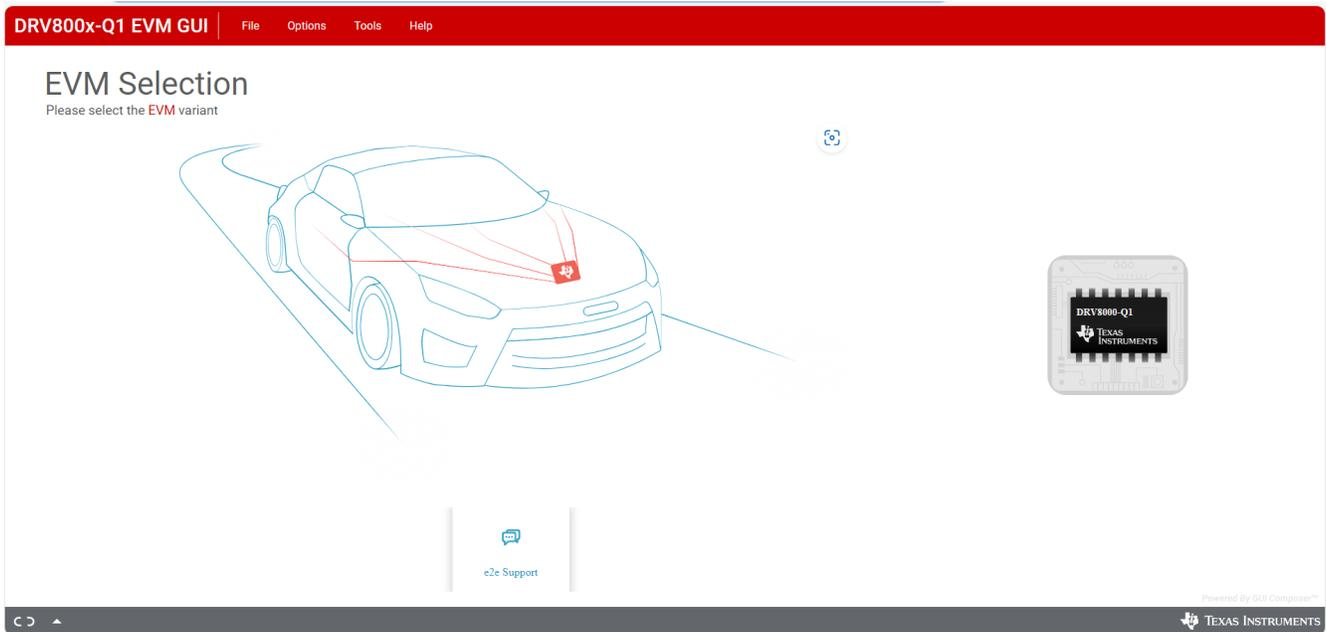

Figure 3-2. GUI Landing Page
1. With the EVM connected to the PC, open the GUI. The home page is shown in Figure 3-2.